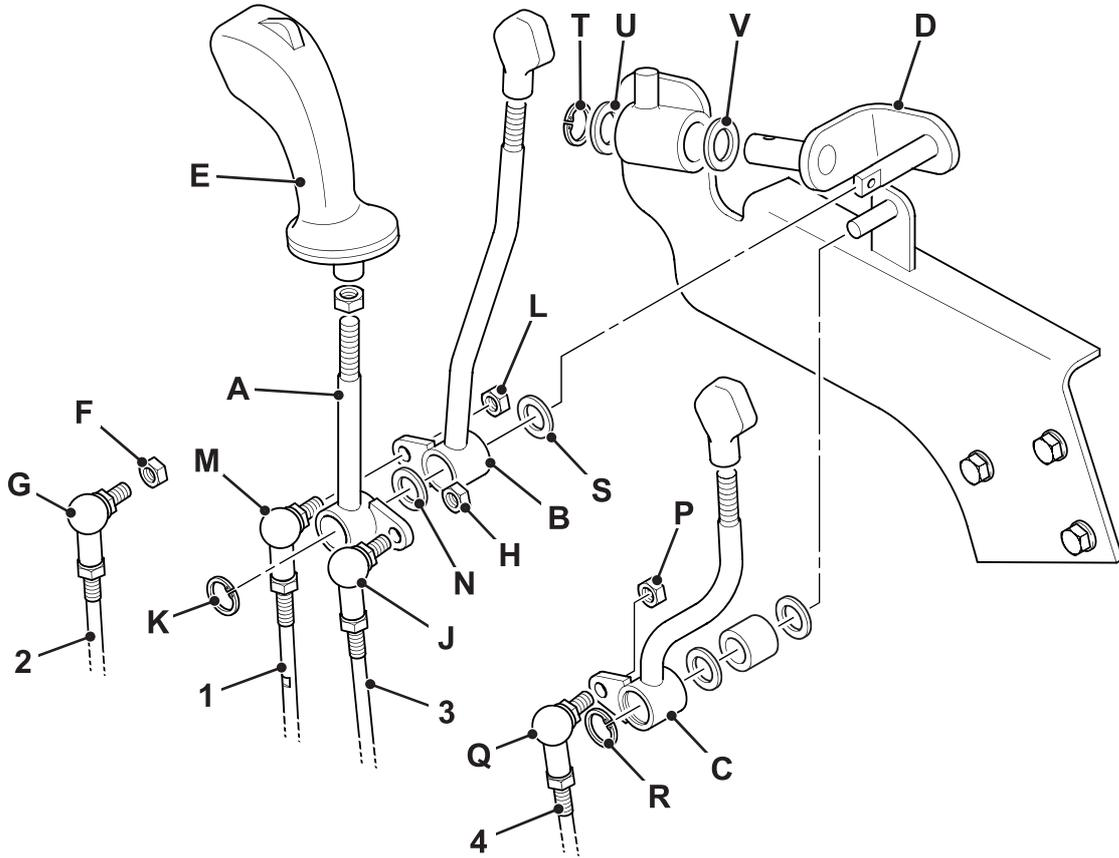

Fig 5.
- 4 Remove the joystick **E**. ⇒ Fig 5. \(□ D-5\)
- 2 Identify the control rod assembly **1** which connects to the control lever **B**. ⇒ Fig 5. \(□ D-5\).
- 3 Identify the control rod assembly **4** which connects to the control lever **C**. ⇒ Fig 5. \(□ D-5\)
- 3 Remove the shim **S**. → Fig 5. \(□ D-5\)